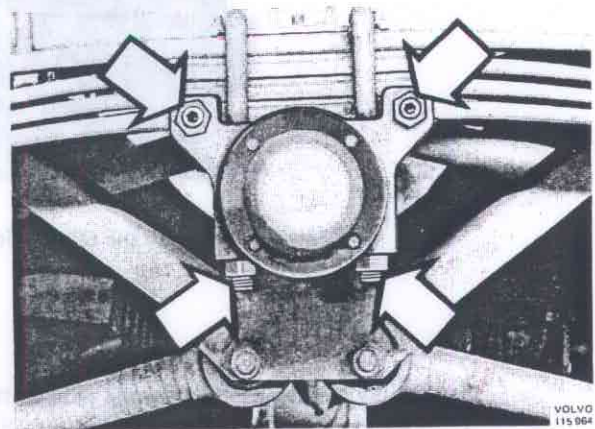

Fig. 76-5. Removing the spring
2. Release the U-bolts and the lock bolts, see Fig. 76-5. Lift out the spring.